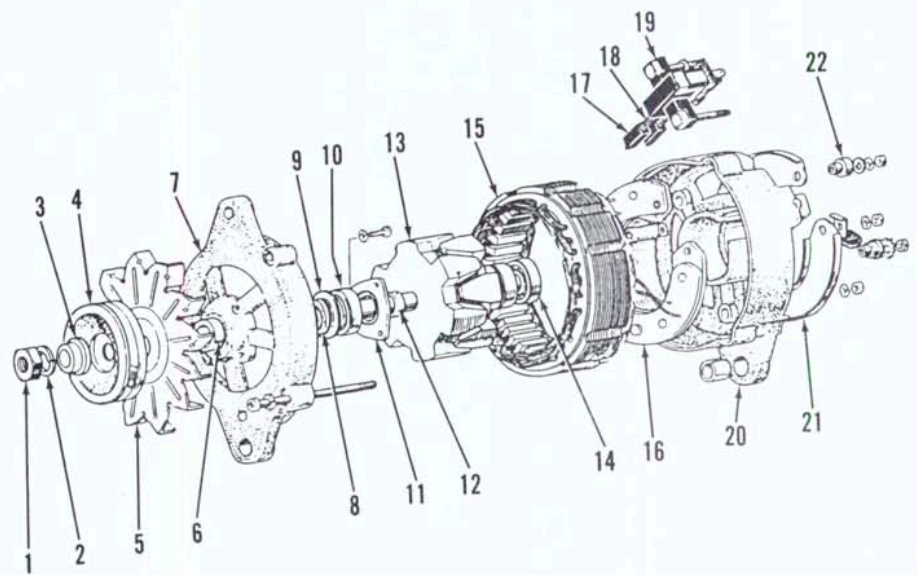

Fig. 74—Exploded view of typical alternator used on all models.
**61. OVERHAUL.** Refer to Fig. 74 for an exploded view of typical alternator unit. To disassemble alternator, first scribe match marks across frame halves